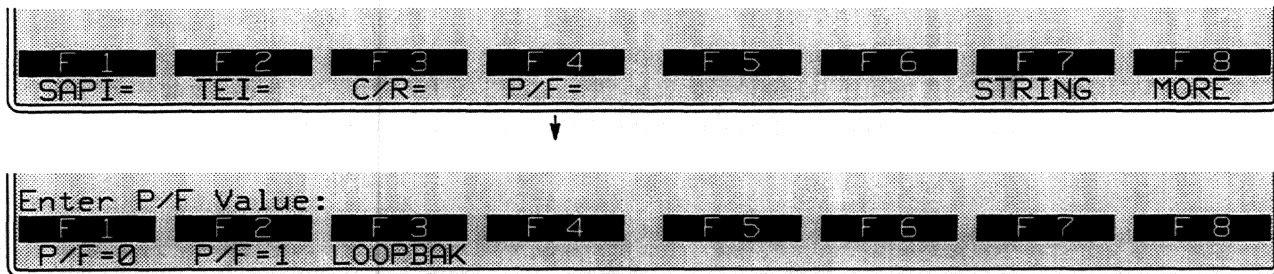

Figure 43-23 A P/F value is optional in all *SEND* entries.
9. *Poll/final bit*. The P/F bit is an optional entry in all SEND actions. P/F values of 0, 1, or LOOPBAK are entered by the softkeys in Figure 43-23. If P/F= LOOPBAK, the bit will echo the last P/F bit received. (Looping the P/F bit is appropriate for UAs and supervisory frames.)